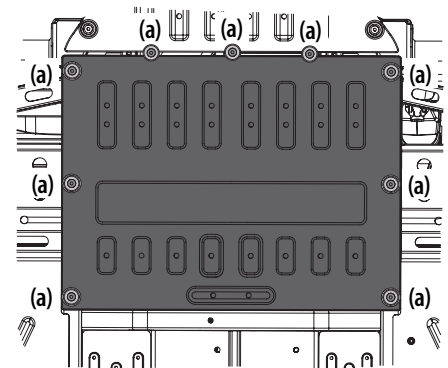

Figure 5-31
1. Remove the nine Allen-head bolts (a) and washers (a) securing the middle skid plate to the bottom of the utility vehicle. See Figure 5-31.
2. Remove the drain and allow the water to run out. Then replace the drain and the middle skid plate. See Figure 5-31.